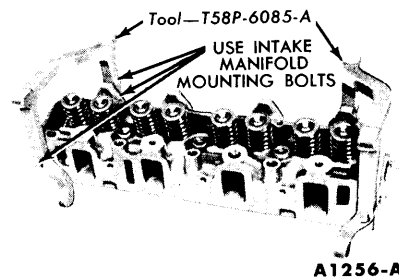

FIG. 20—Cylinder Head Holding Fixtures
3. Remove the cylinder head bolts. Install the cylinder head holding fixtures (Fig. 20).